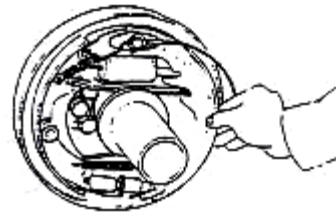

figure 2-19
(4) Disassemble the leading brake shoe and secondary brake shoe. Then disassemble the regulator and regulating spring. See figure 2-19